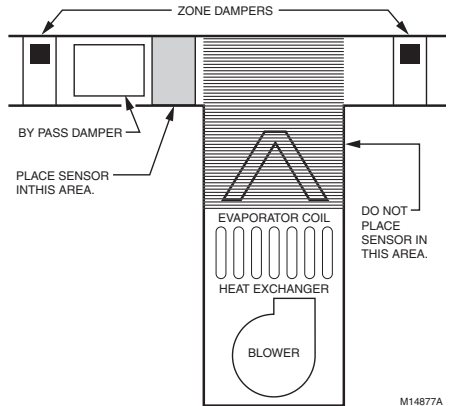

Fig. 2. DATS mounting location.
2. Locate the DATS on the supply trunk between the bypass damper and the evaporator coil and/or heat exchanger. If a bypass damper is not used, locate the DATS between the zone dampers and the evaporator coil and/or heat exchanger. See Fig. 2.